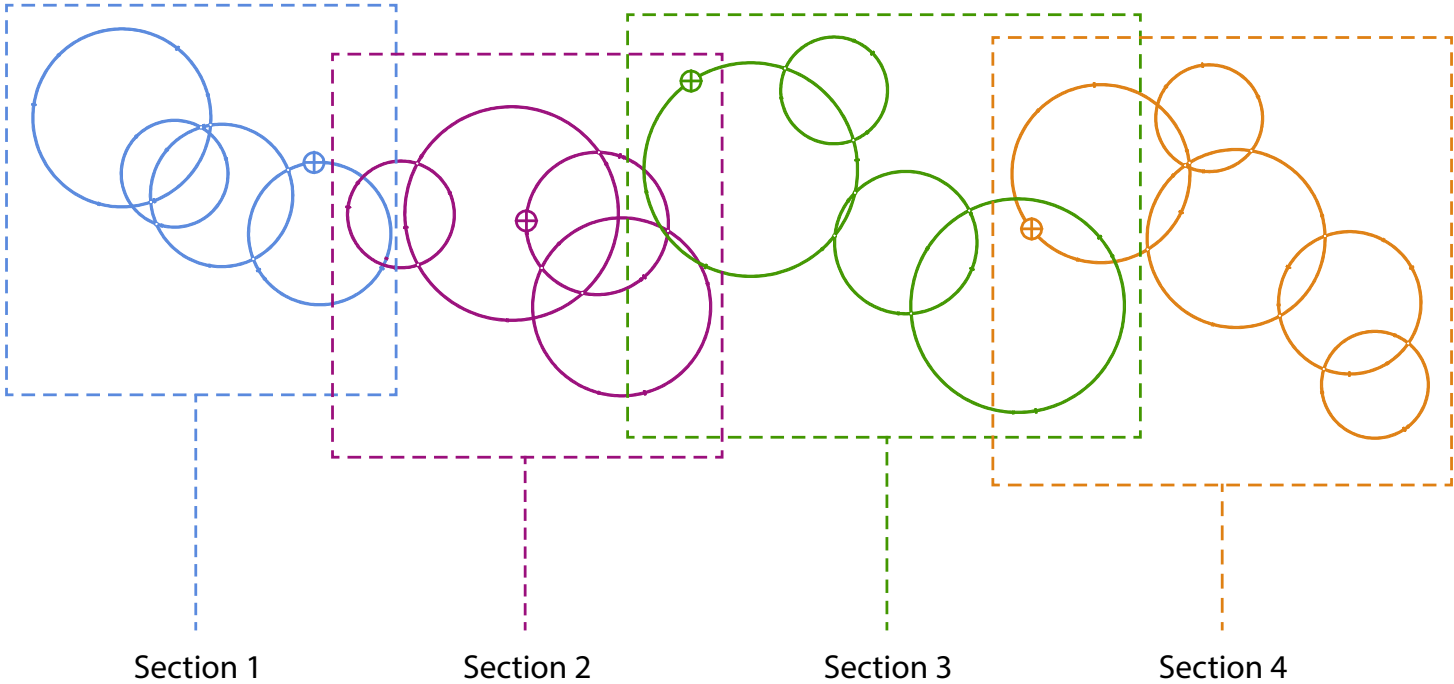

Fig. 5
1. Install the mounting bracket to the ceiling with anchor and screw, then screw the post onto the mounting bracket. (Fig. 5)